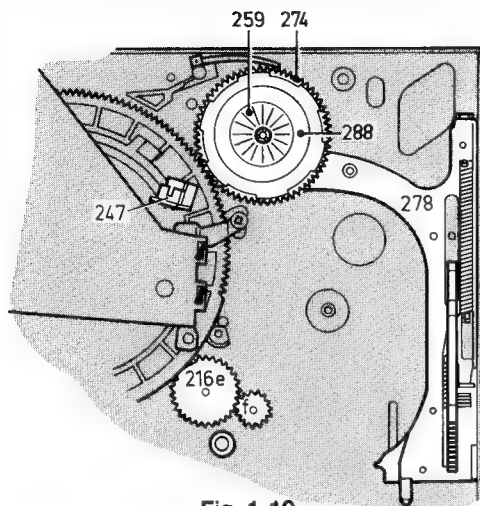

Fig. 1-19
- Demount differential gear pos. 274 (1.11).
- Unhook spring pos. 270.
- Turn threading ring clockwise up to stop (Fig. 1-19).